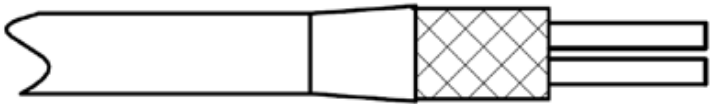

Figure 4-14 Stripping the shielding wire
Step 3: Remove individual fractured shielding wire, fold back the shielding braid and fix it on the outer jacket with adhesive tape, remove the inner insulation, as shown in Figure 4-14.